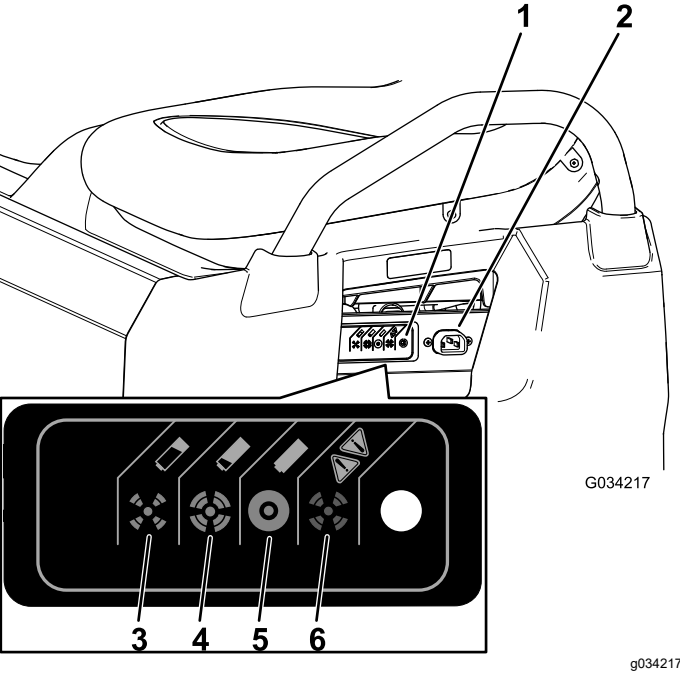

Figure 37
3. Connect a **16 gauge (or larger diameter), 2.5 m (8.2 ft) or shorter charger cord** to the charging receptacle on the machine (Figure 37).
Refer to the following table and Figure 37 for information on the meanings of the varying colors of the charger-status light.